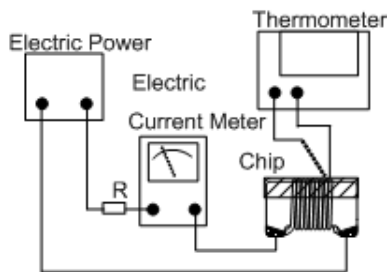

Fig.6.3.5-1
- d. Definition of Rated Current (I_r): I_r is direct electric current as chip surface temperature rose just 20 against chip initial surface temperature (T_a) (see **Fig. 6.3.5-2**).